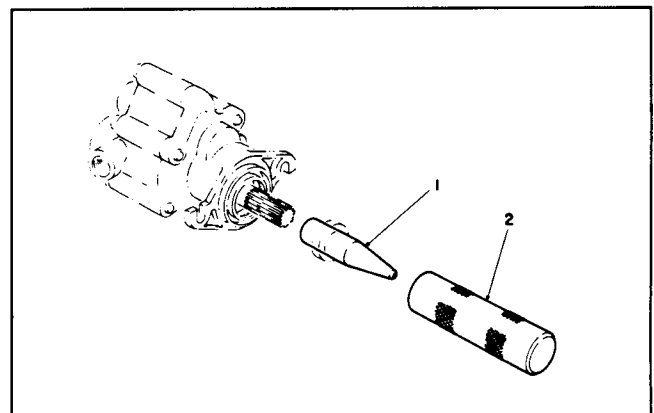

Figure 17
9. Put seal protector on motor shaft (Fig. 17) or apply tape on the shaft. Be careful to prevent the shaft spline from damaging the new seal.